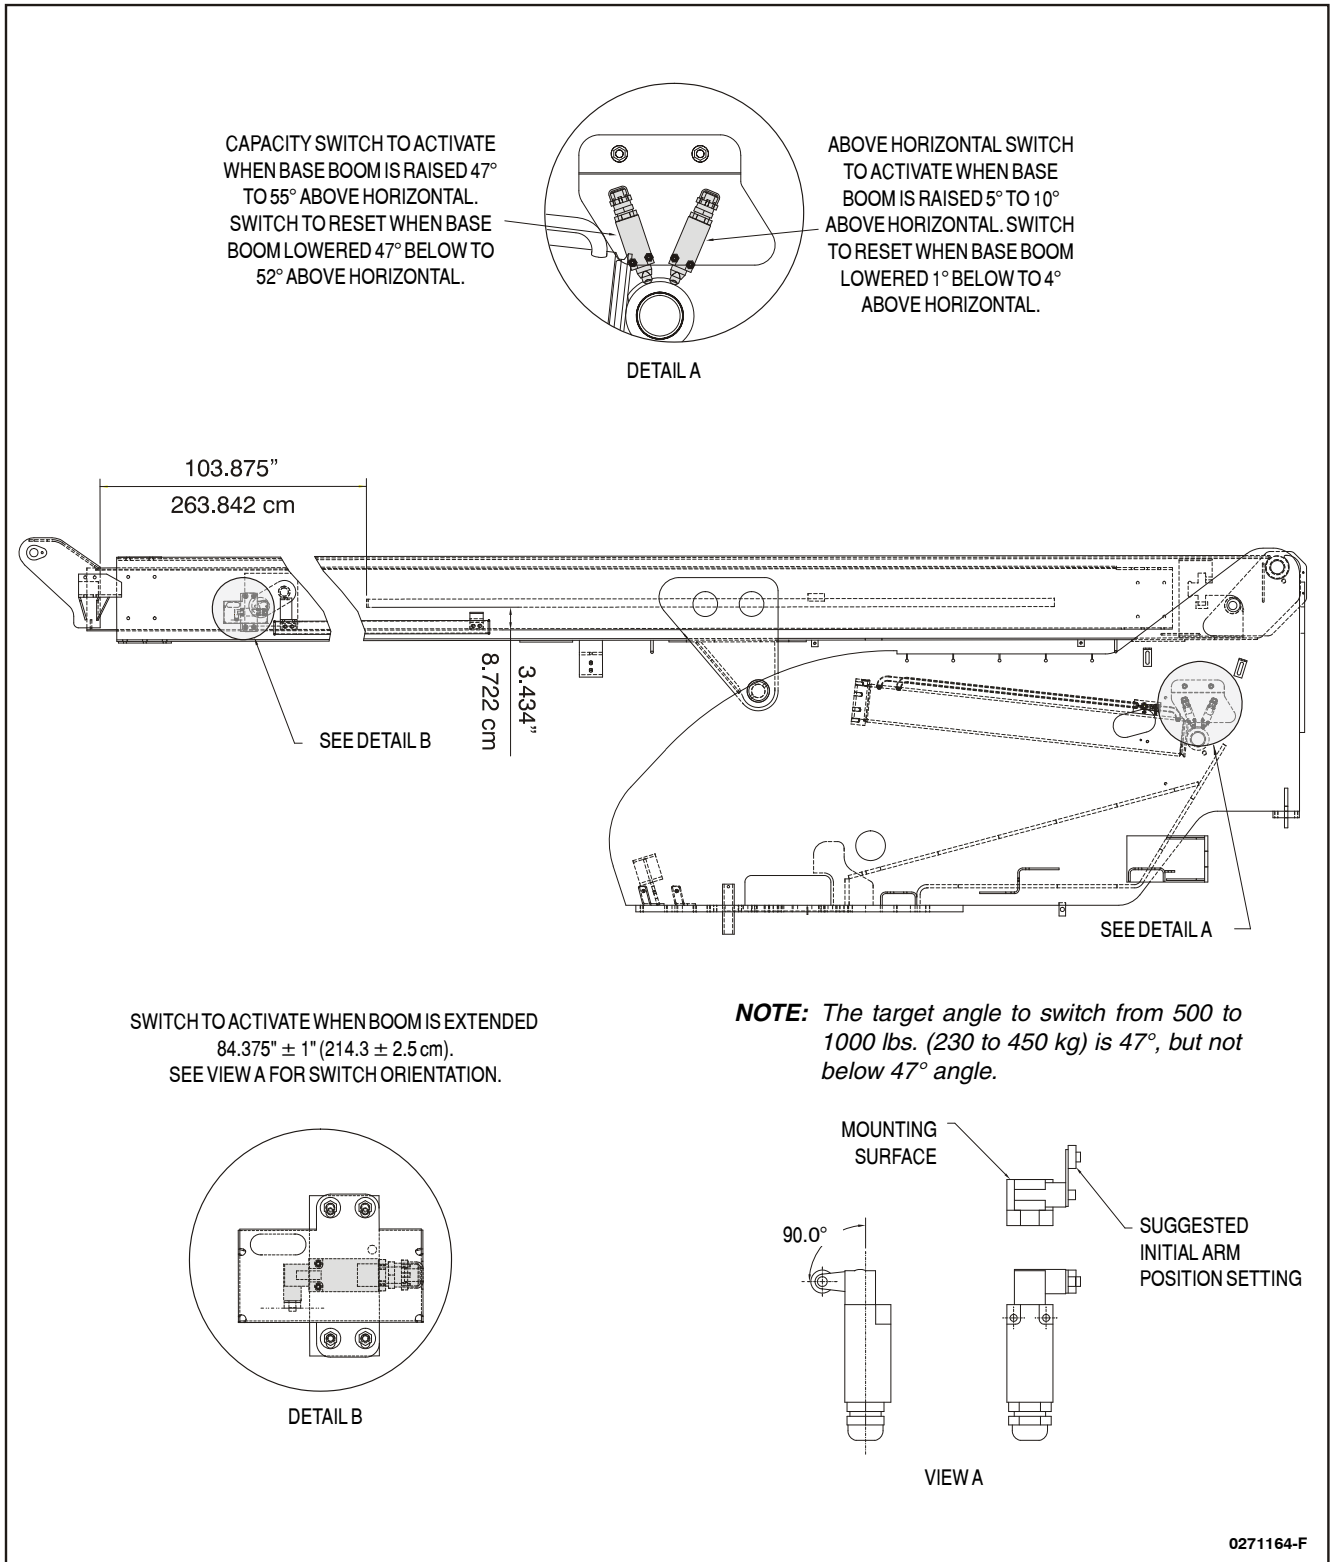
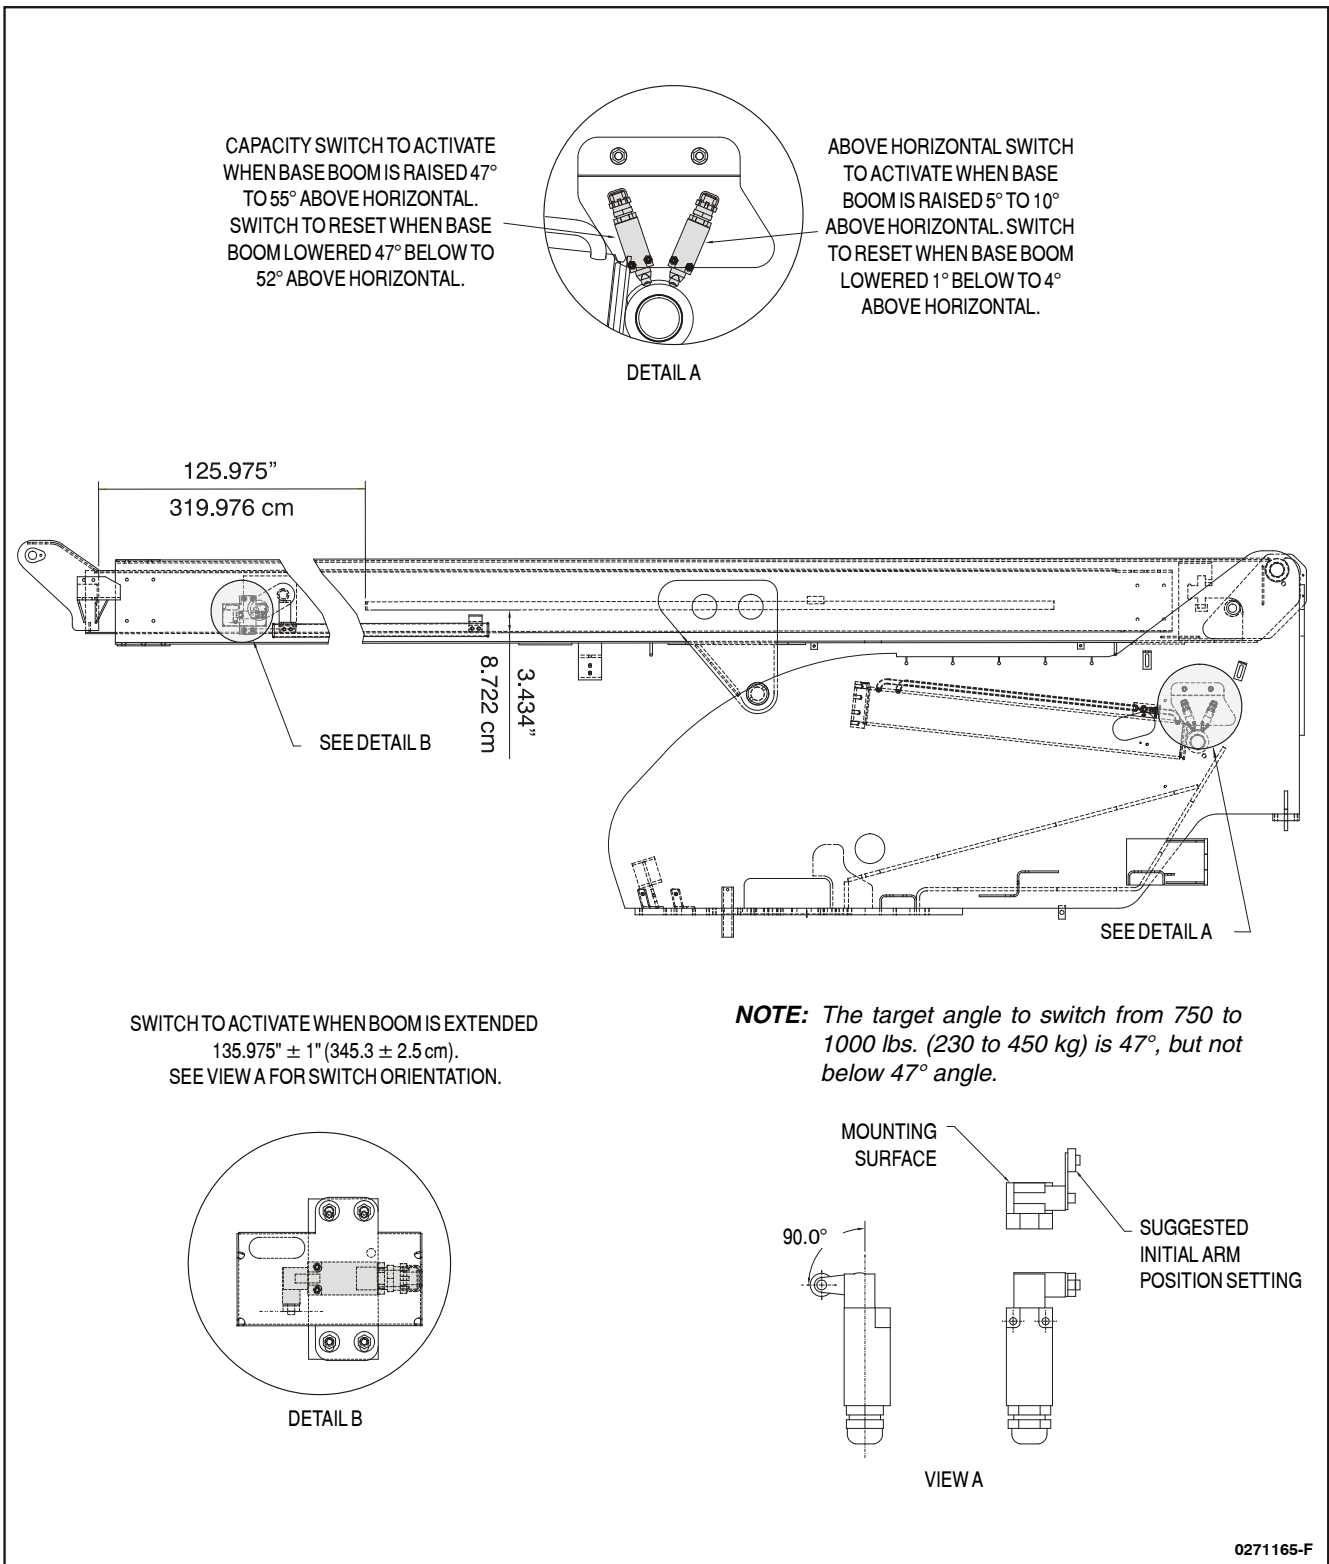
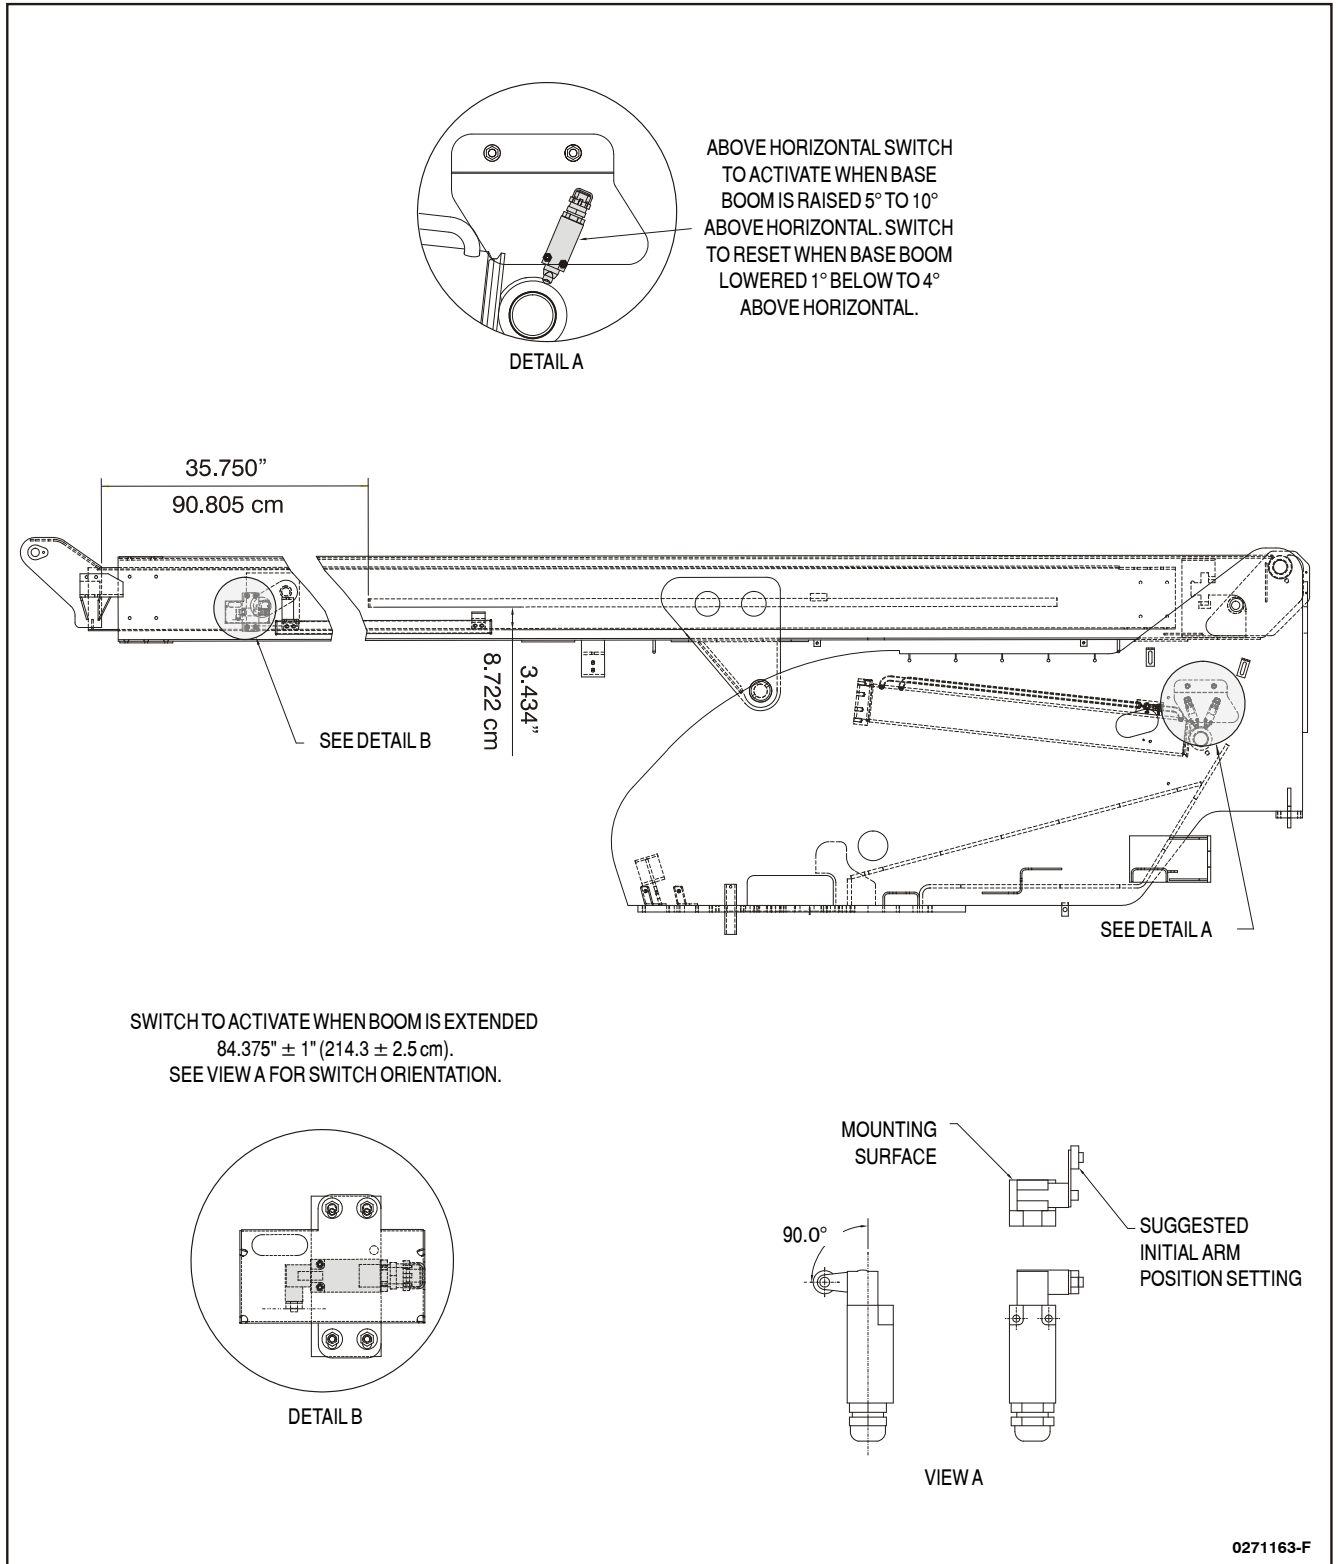
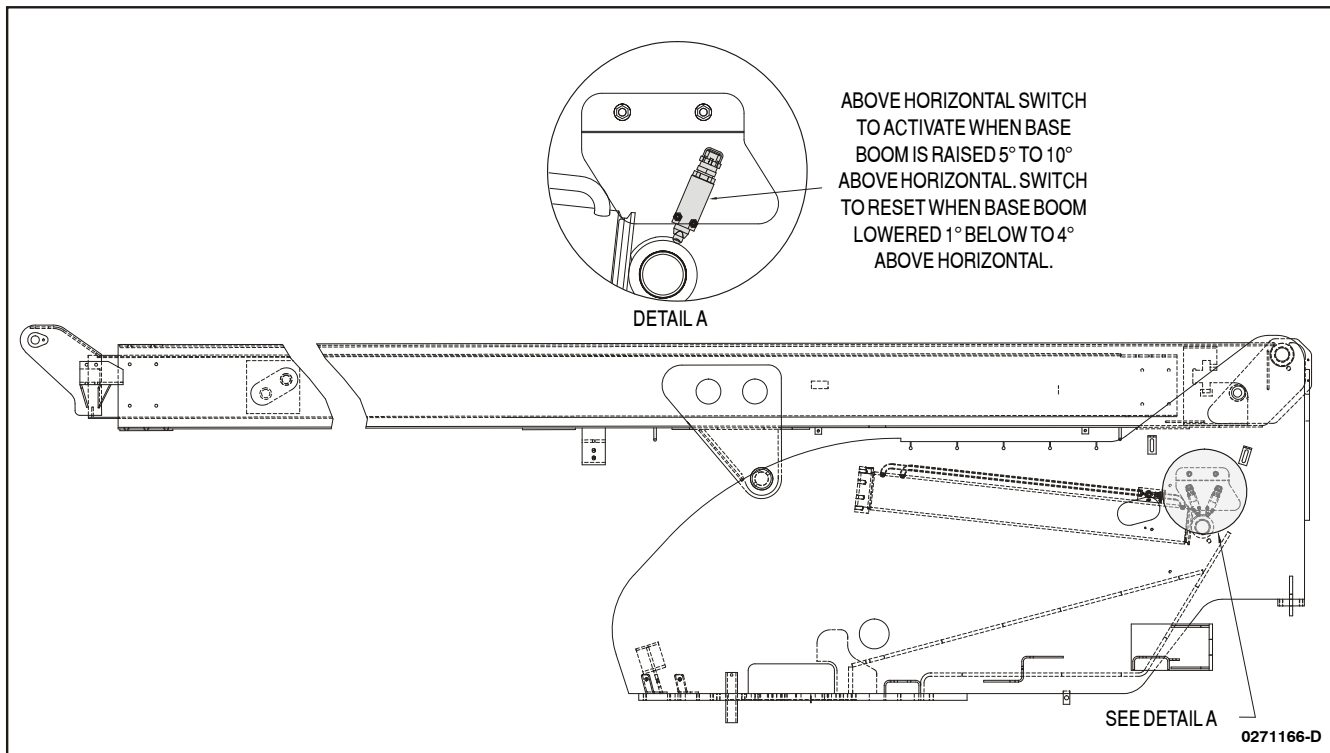

Figure 4-5. Limit Switches - 500 / 1000 LB (230 / 450 kg) Capacity
Figure 4-6. Limit Switches - 750 LB (340 kg) Capacity
Figure 4-7. Limit Switches - CE Machines
Figure 4-8. Limit Switches - 460SJ
See Figure 4-5., Figure 4-6., Figure 4-7., and Figure 4-8.
3. Extend the retracted fly boom. See Figure 4-5., Figure 4-6., or Figure 4-7. as applicable for the proper dimension for switch activation.